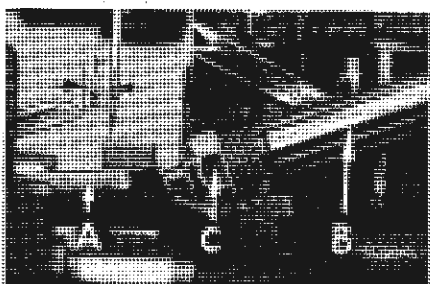

Fig. 4
At this point, insert lower looper (A, Fig. 4) into bar (B). With lower looper at left end of its stroke, set looper point $1/8$ inch from center of needle (Fig. 4) using looper gauge No. 21225- $1/8$. Do not have lower looper deflecting needle. Tighten nut (C). Now assemble differential (front) feed dog.